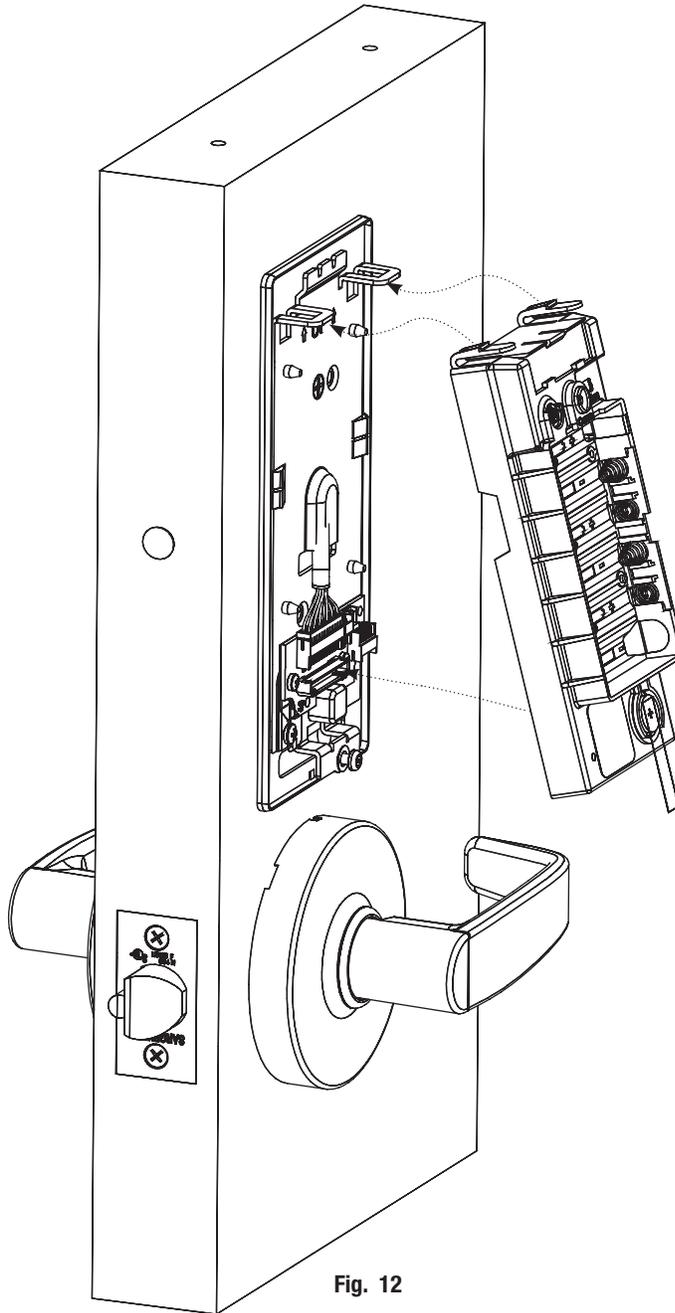

Fig. 12
1. Insert top tabs of controller into slots on mounting plate (Fig. 12).